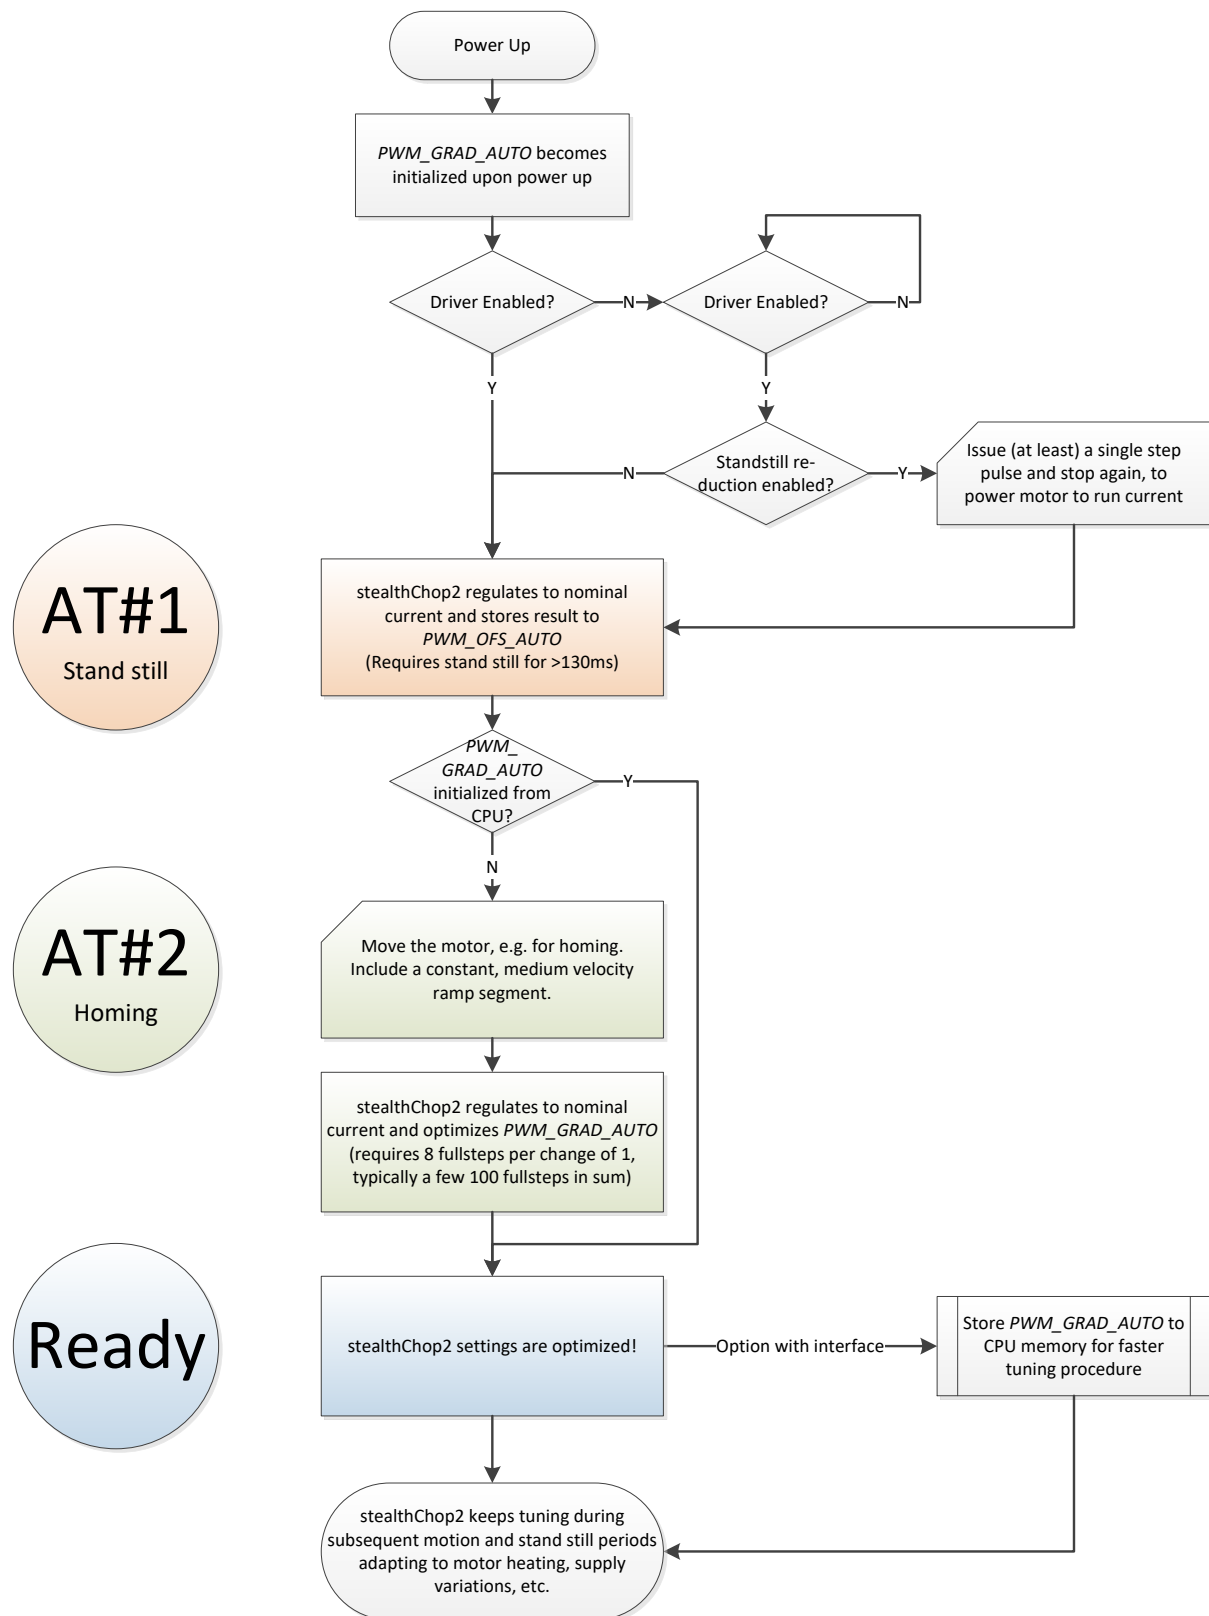

Figure 7.2 StealthChop2 automatic tuning procedure
StealthChop2 integrates an automatic tuning procedure (AT), which adapts the most important operating parameters to the motor automatically. This way, StealthChop2 allows high motor dynamics and supports powering down the motor to very low currents. Just two steps have to be respected by the motion controller for best results: Start with the motor in standstill, but powered with nominal run current (AT#1). Move the motor at a medium velocity, e.g. as part of a homing procedure (AT#2). Figure 7.2 shows the tuning procedure.